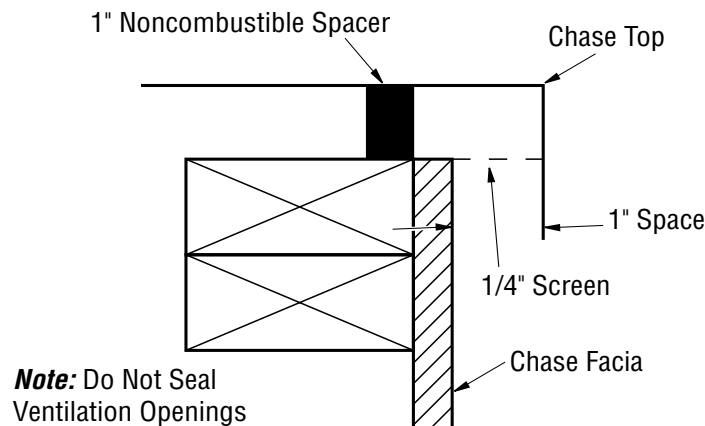

Figure 27 - Chase Top Flashing
- Attach noncombustible spacers at each corner and place flashing over chase (see Figure 27). Secure flashing through sides with 8-penny nails or sheet rock screws.